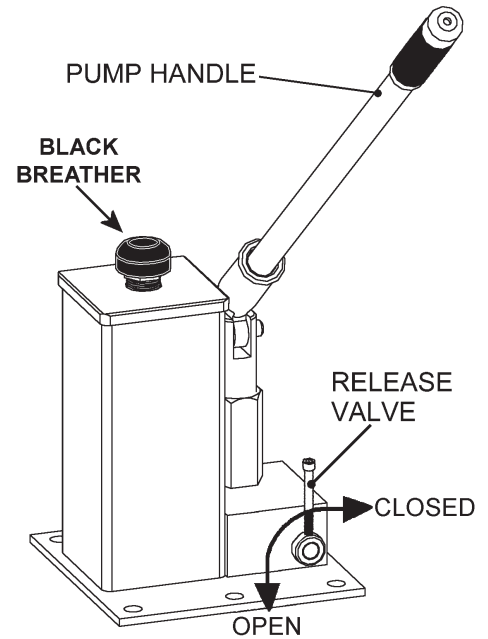

Figure 3.1
1. LIFT and Lower Function (Figure 3.1)